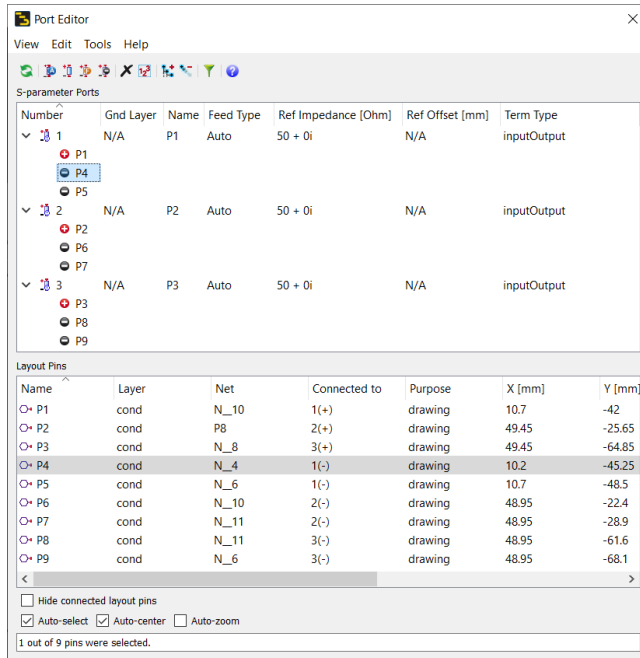

Figure 29. Port Editor showing remapped ground pins
6. Because there are two ground pins for each signal pin, the mapping must be changed. Open the Port Editor (next to the substrate button on the toolbar) and make the following changes. The final port mapping is shown in Figure 29.